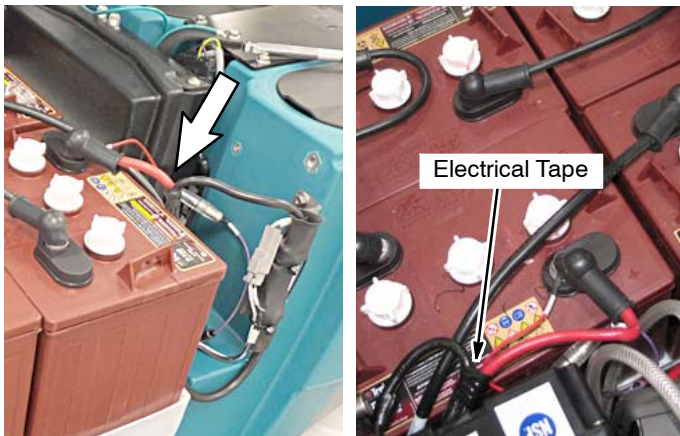

FIG. 29
*NOTE: It may be necessary to cut the nylon braiding from the machine's battery cable harness to allow the positive battery cable to reach battery terminal (FIG. 29). Use electrical tape to tape off the nylon braiding.*